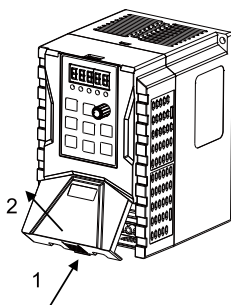

Fig 3-6 Terminal cover disassembly
A. Method of terminal cover disassembly is shown as fig 3-6: press terminal cover card position in direction 1 and remove terminal cover in direction 2.